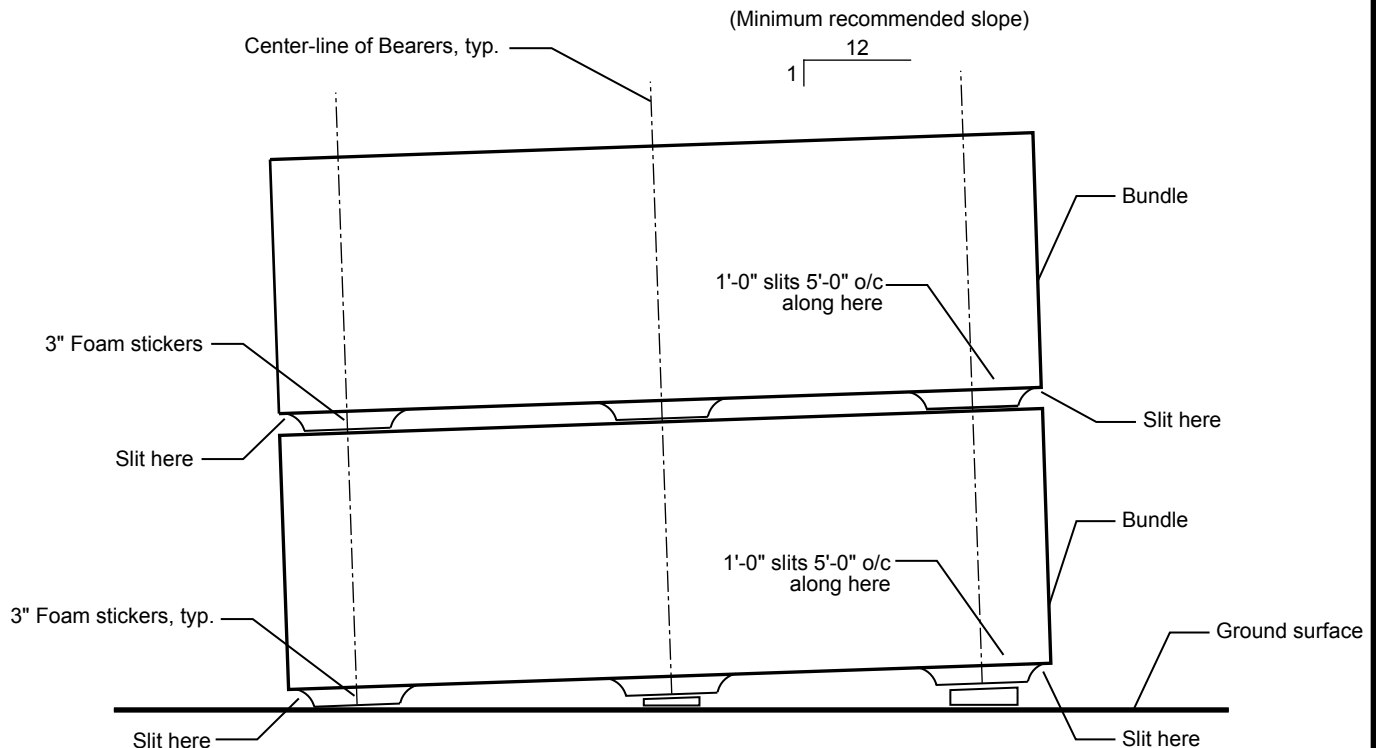

Figure 3
5.3 If the bundles cannot be stored in a covered location, it is necessary to cut the outside plastic wrapping and arrange the bundles such that they are inclined at a (minimum) 1:12 slope such that water does not accumulate, and moisture build up between panels is avoided. The continuous cut should be made along the width of the bundle; cut 1'-0" slits 5'-0" o/c along the length of the bundle (see figure 3, below). Do not store for longer than 30 days. Moisture between panels can cause corrosion and oxidation of painted surfaces can occur.
5.4 Bundles should be stacked no more than two high. The foam stickers for the upper bundle should be located in line with the foam stickers on the lower bundle (see figure 3, below).